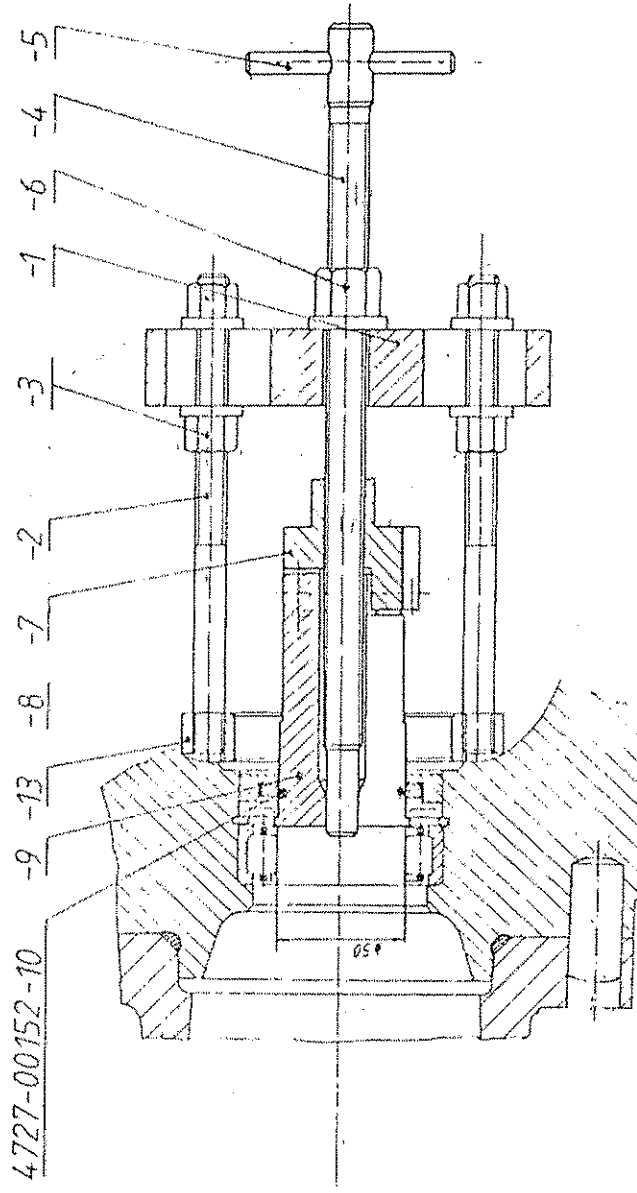

Fig. 2: REMOVAL OF KNUCKLE SUPPORT BEARING
By means of the device shown in Fig. 2, pull out the seal retainer (74), the seal ring (76) from the knuckle support.
Remove the lock ring (77) and pull out the cylindrical roller bearing (79) with the tool shown in Fig. 2.